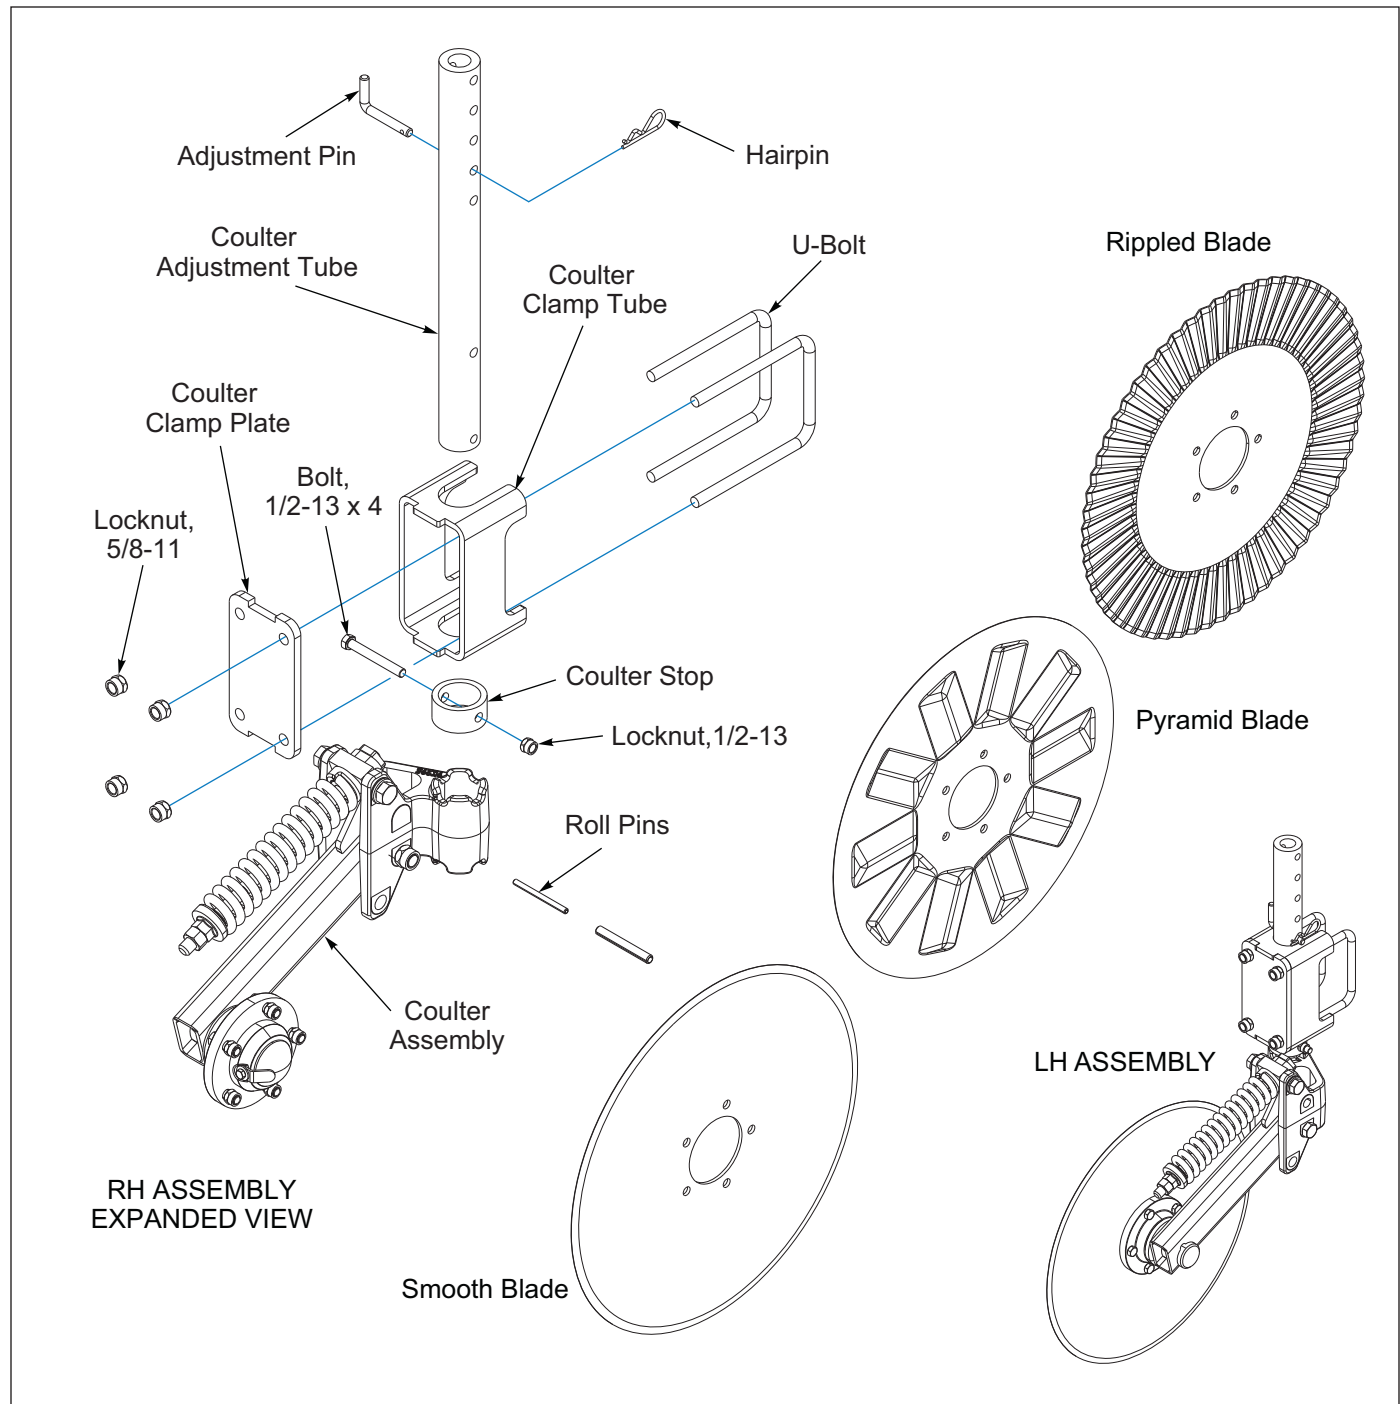

Figure 3-4: Coulter Assembly
1. Assemble Coulter Adjustment Tube to Coulter Assembly using Roll Pins $1/2 \times 4$ and $5/16 \times 4$. Assemble the Coulter Stop to the Coulter Adjustment Tube using $1/2 \times 4$ Bolt and Locknut. **See Figure 3-4.**